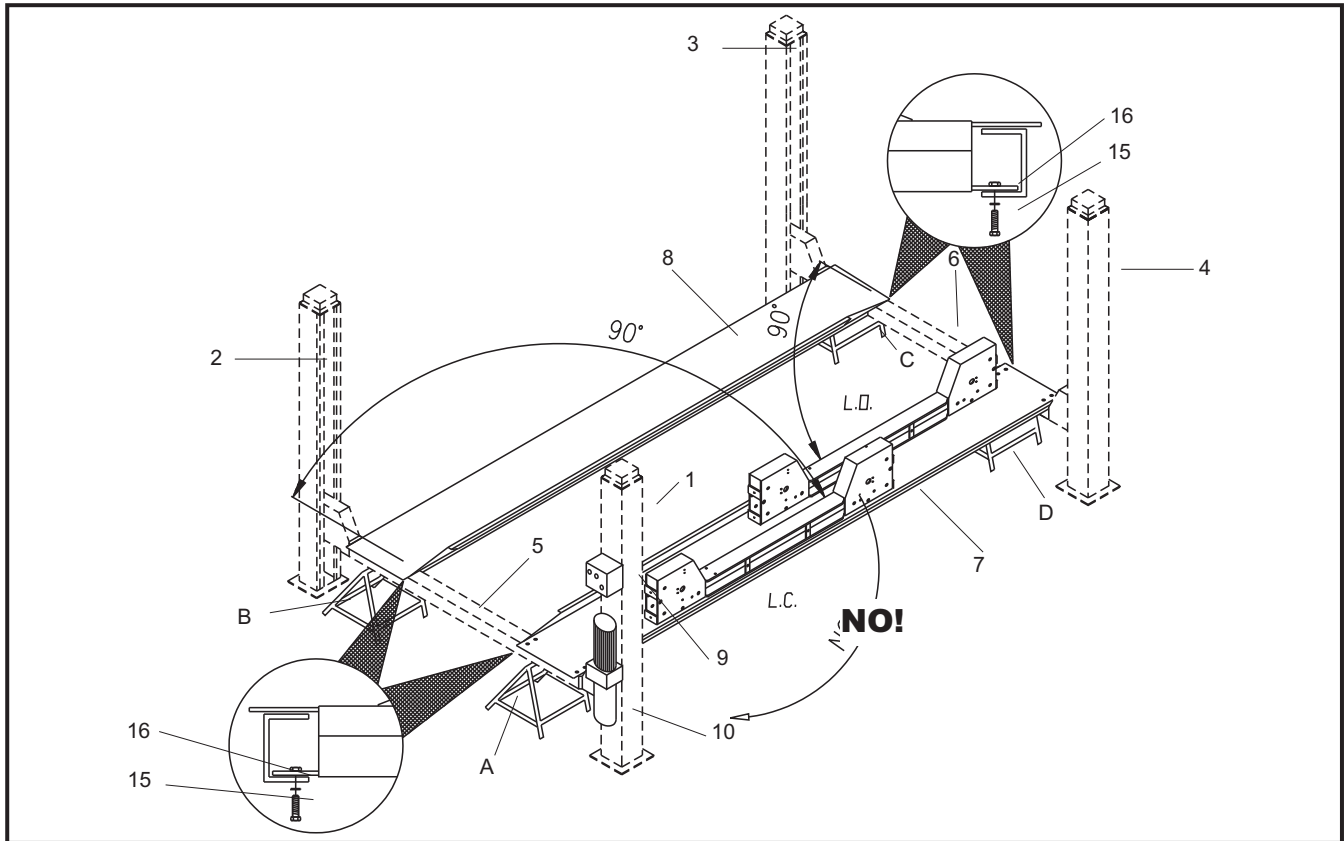

Fig.39
- 5 - Place the platform (8) on the cross-pieces (pos.5-6, fig.39).
- 6 - Check squaring and the diagonals of the cross-piece - platform assembly; then, fully tighten the screws (15) securing the platforms (7-8).
Position the posts at the end of the cross-pieces (pos. 5-6, fig.39) observing the numbering and the lay-out shown in figure 39.